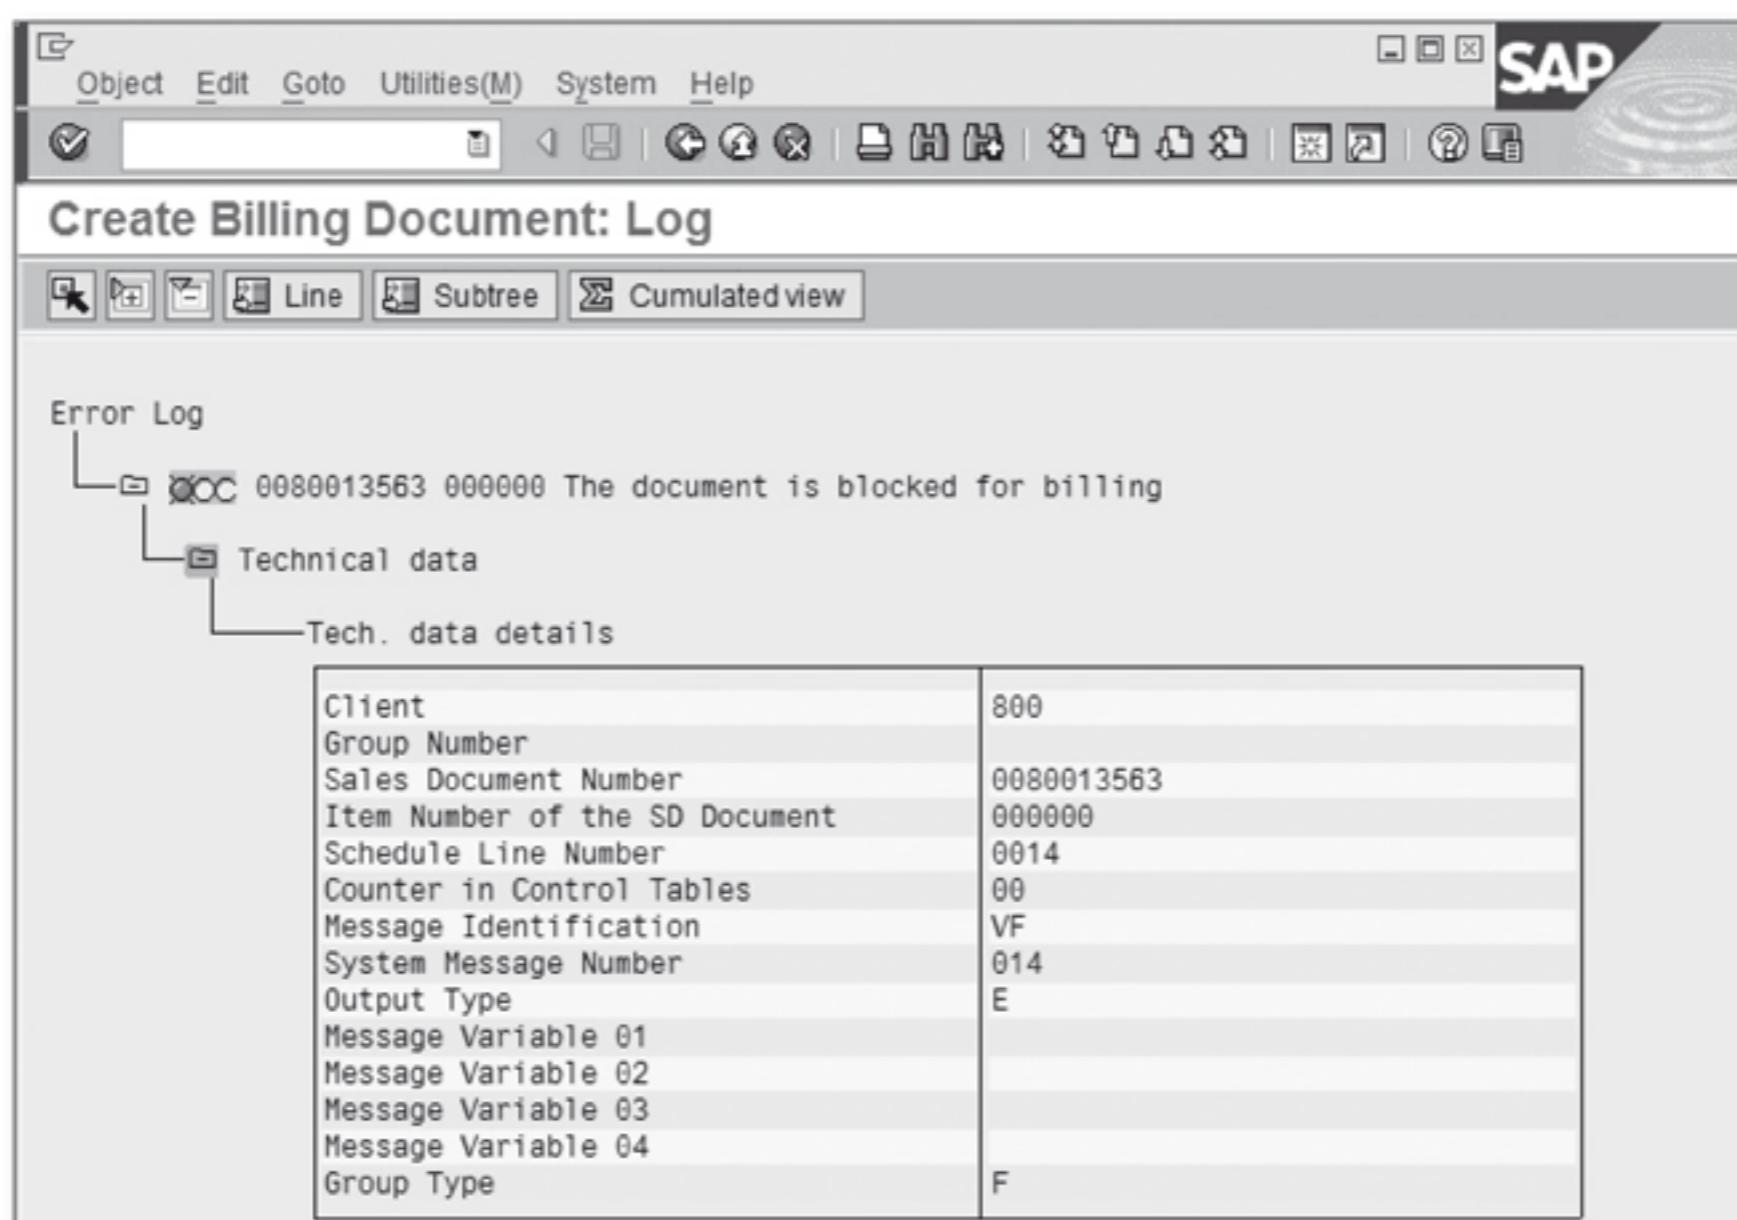

Figure 5.11 Create Billing Document Error Log
3. On the detailed message screen, you can review the messages, and to see the technical data details, you can simply click on the little folder icon that will expand showing more information for you. Figure 5.11 shows a sample of error log messages.